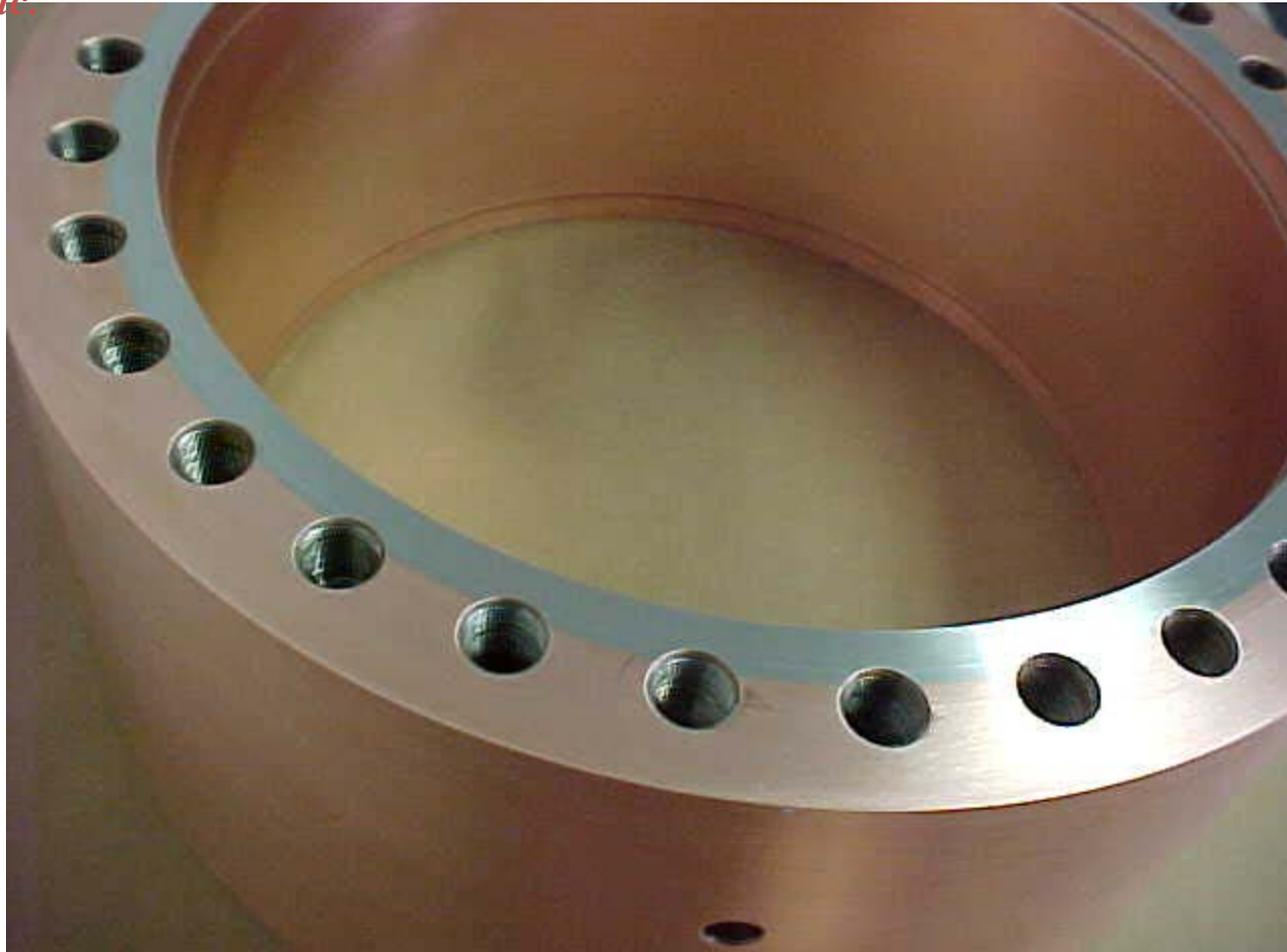

Fig. 4. The Cavity cylinder was turned to remove cooper plating. The turned surface was polished with Tungsten wire to get good surface for sealing.
- ▶ **The Cavity cylinder was turned to remove cooper plating and was polished with Tungsten wire to get good surface for sealing, Fig. 4.**